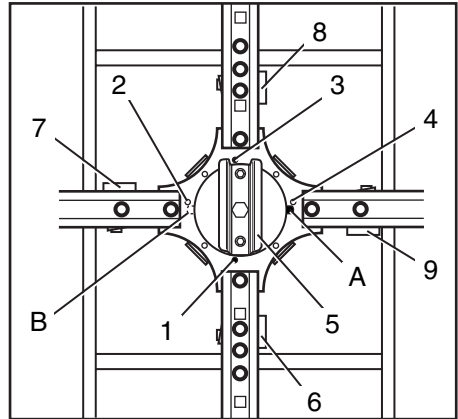

Fig. 24.2 Swivel plate
ATTENTION Be sure the pins are screwed in like items 1 and 3 in Fig. 24.2. The pin (24.2/B) must be removed.